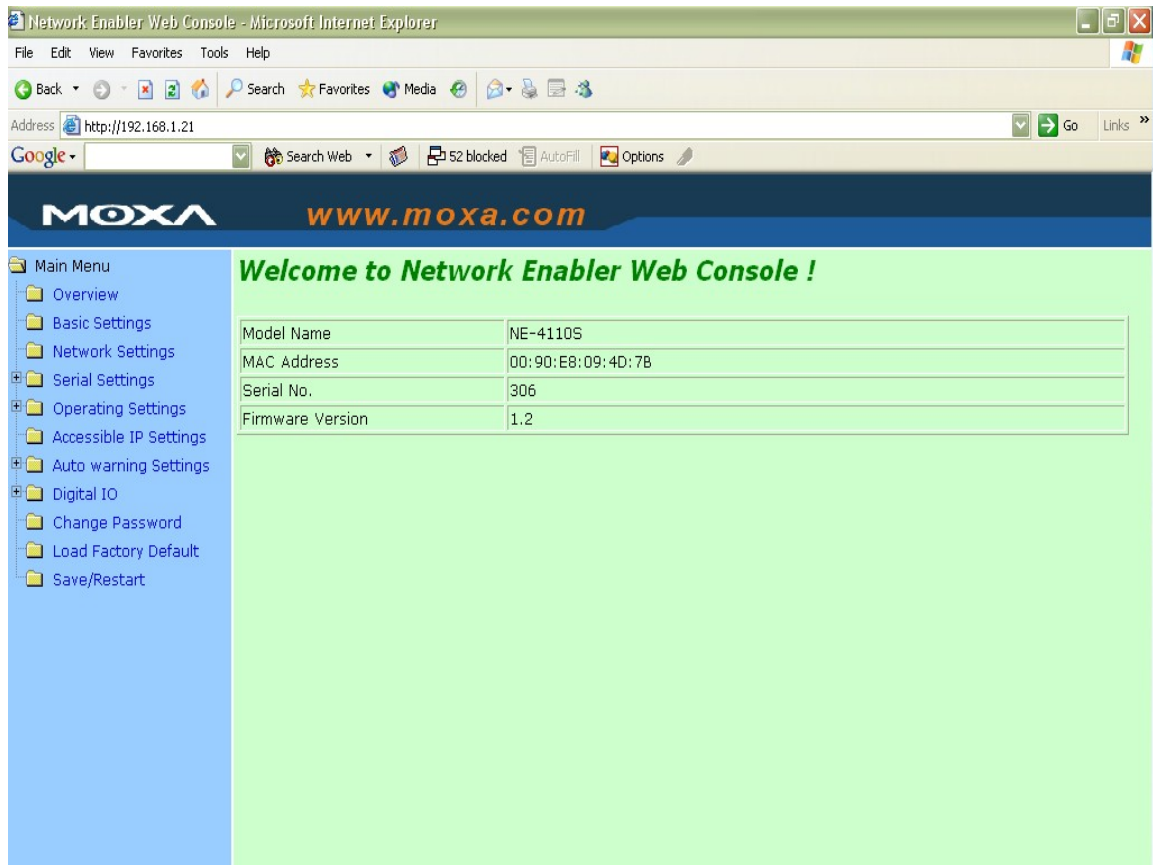

Figure A2-6: Web Console for Network Enabler Software
- Once the network adapter is configured with the correct IP address (in accordance with facility Information Technology organizations), the network configurations can be accessed using Internet browser running JAVA. To access the web configuration, type in the IP address of the device in the address bar and click GO to view the data (**Figure A2-6**, below).